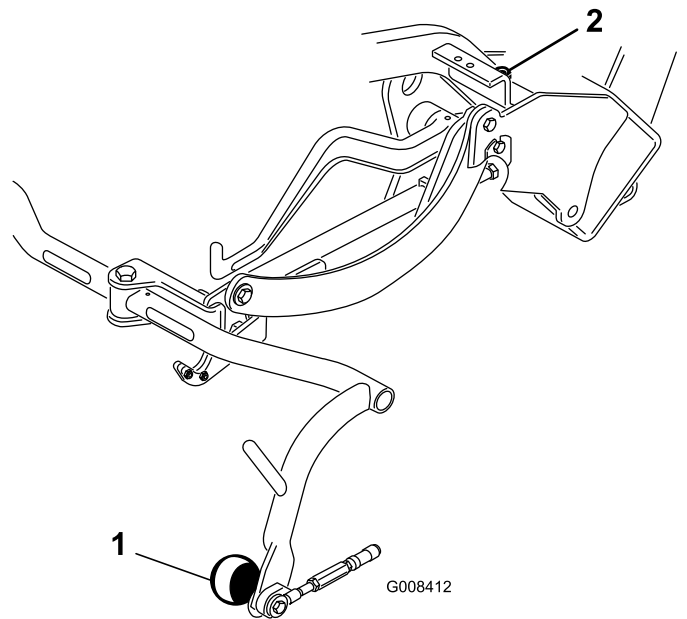

Figure 9
4. If you must adjust the clearance, loosen the jam nut on the carrier frame stop screw (Figure 9) and rotate the screw up or down to raise or lower the carrier frame. Tighten the jam nut to secure the adjustment.